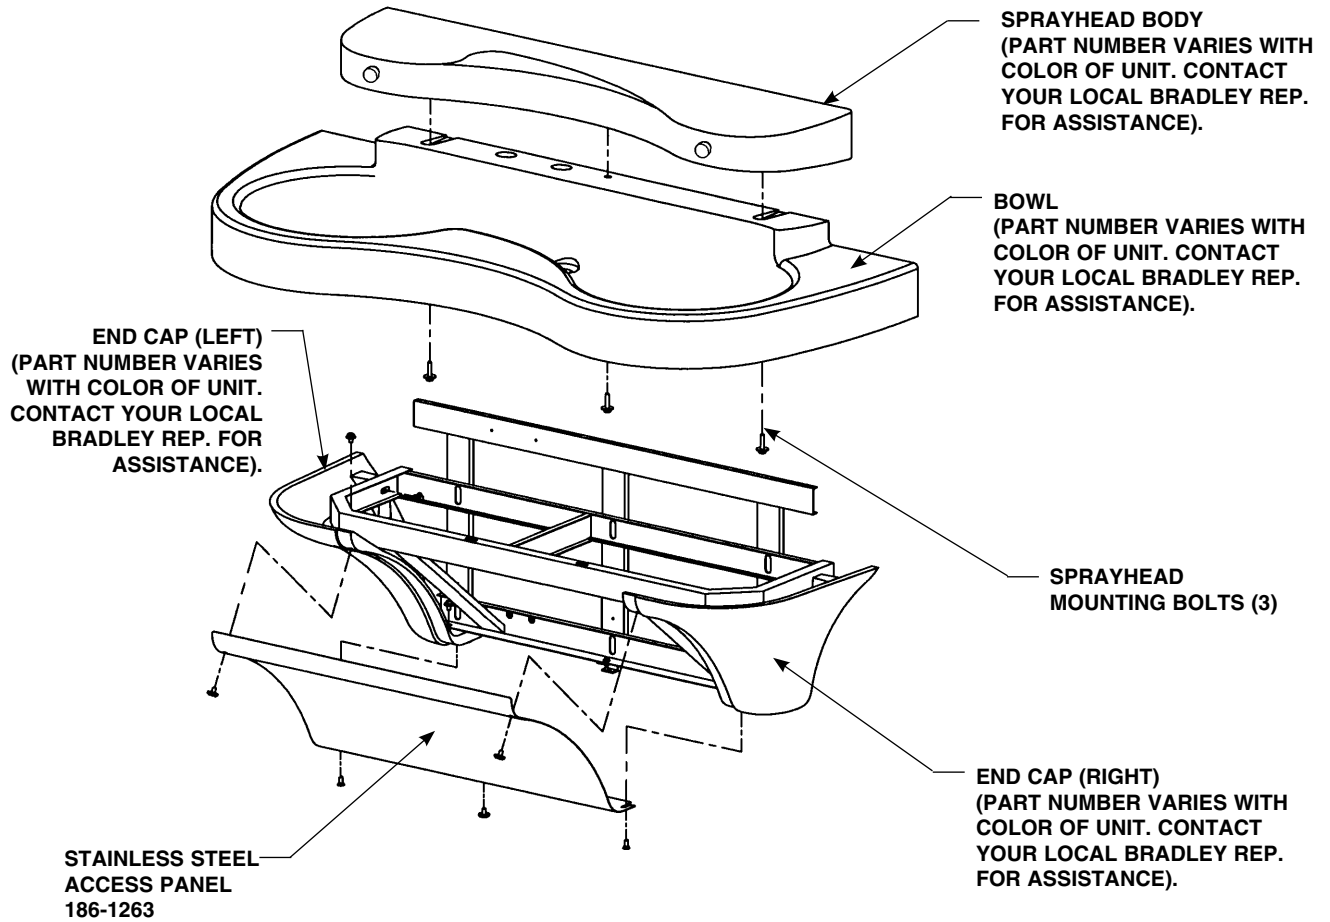

Figure 9
Remove (3) bolts located underside of bowl neck (see Figures 9 and 11). Carefully remove sprayhead from bowl.